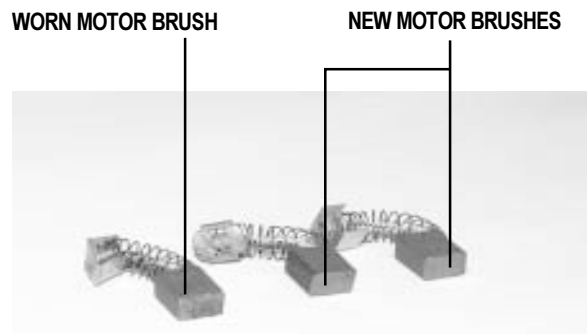

Figure 19. Motor Brushes
4. Inspect for wear. See figure 19.